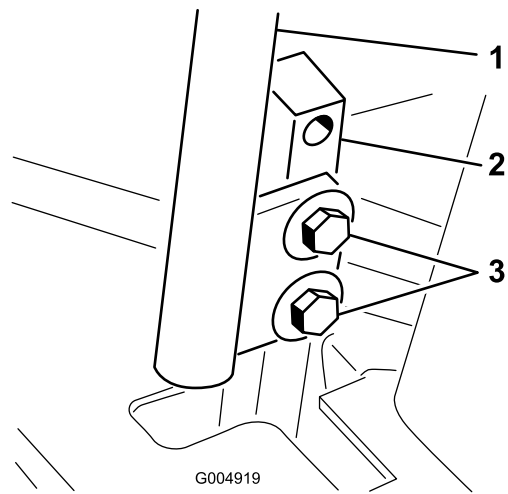

Figure 63
3. Loosen the bolts securing the control levers (Figure 63)